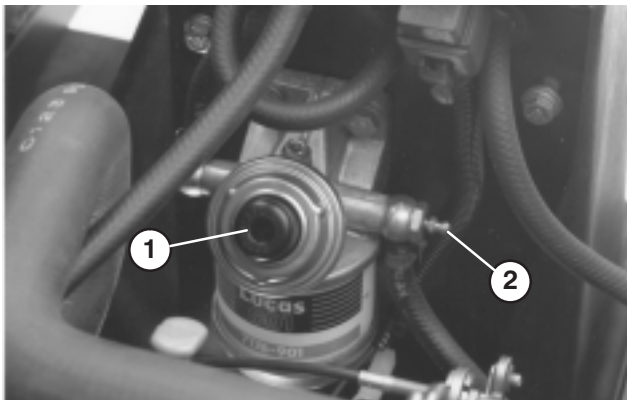

Figure 15
PRIMING FUEL SYSTEM (Fig. 15 & 16)
3. Loosen fuel filter / water separator bleed screw (Fig. 15) a few turns. Pump priming plunger until a steady stream of fuel comes out of hole in bleed screw. When fuel stops foaming, tighten the bleed screw during the downstroke of the priming plunger. Wipe up any spilled fuel.